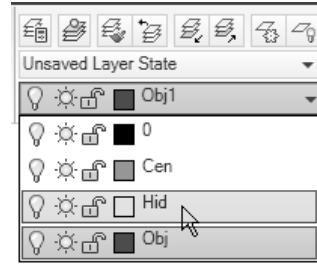

Figure 4-21 Selecting the **Hid** layer from the **Layers** panel of **Ribbon** to set it as the current layer
13. Select the down arrow in the **Layer** drop-down list from the **Layers** panel of the **Ribbon** to display the list of layers and then select the **Hid** layer from the list to make it current, as shown in Figure 4-21.